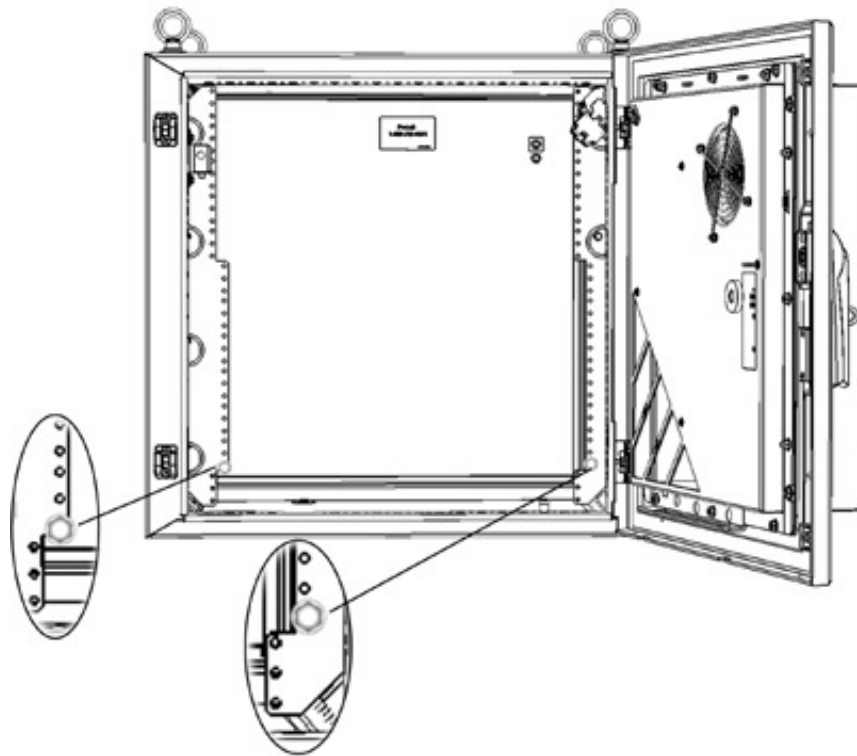

Figure 6-15. Self-Tapping Screw Inserted in each Rail
2. Insert one 8 mm self-tapping screw (provided with the cabinet) half way into the bottom hole of each rail. Refer to Figure 6-15.